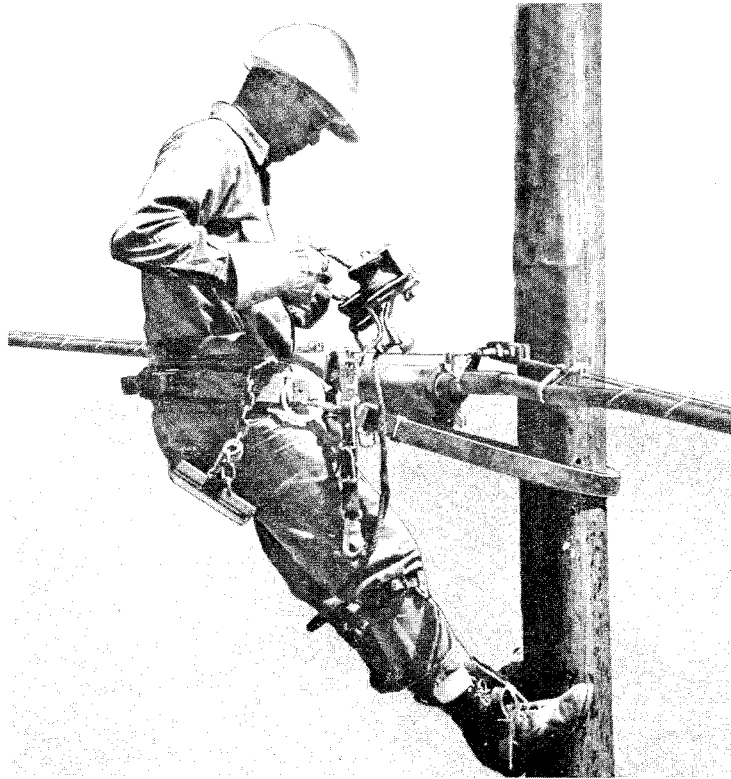

Fig. 8—Passing a Pole
6.07 When it is necessary to pass a pole, as in changing from one span to another, place the safety strap around the pole and disconnect the cable car straps. Climb up the pole to take the weight off the seat, lift the car off the strand (Fig. 8), move around the pole, and place the car on the strand on the opposite side of the pole (Fig. 9). Attach the cable car straps and safety strap as outlined in 6.02.